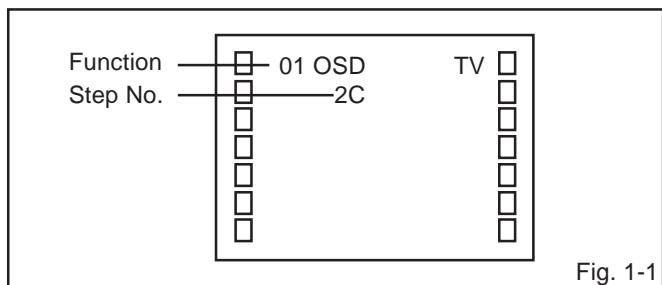

Fig. 1-1
2. Press the VOL. DOWN button on the set and the Channel button (9) on the remote control for more than 1 second to appear the adjustment mode on the screen as shown in **Fig. 1-1**.